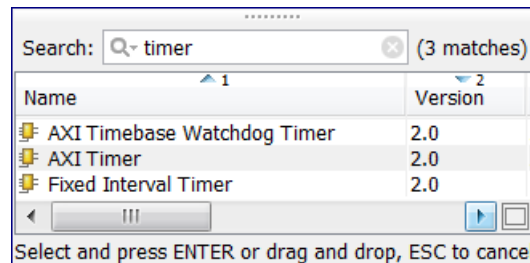

Figure 108: AXI Timer
1. By right-clicking in the IP integrator diagram area and selecting **Add IP**, search for and select the **AXI Timer** (**FIGURE 108**).